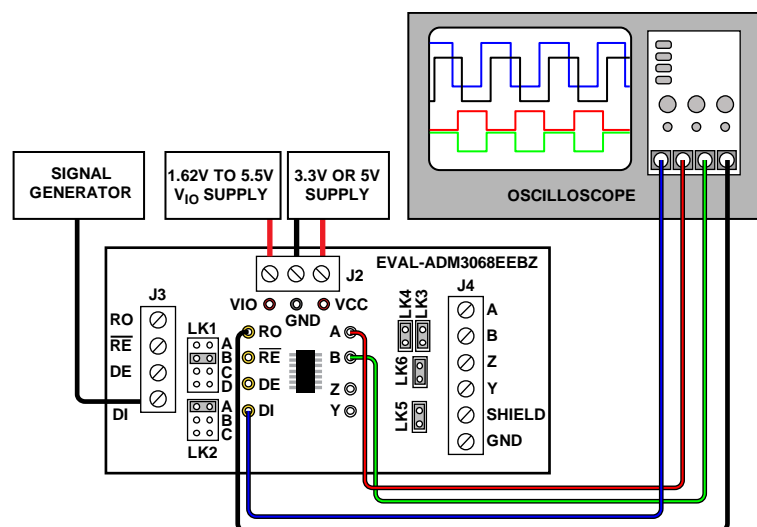

Figure 3. Full Duplex RS-485 Loopback Test
For the EVAL-ADM3068EEBZ, a loopback test can be set up by closing the LK4 and LK6 jumpers. Figure 3 shows how to set up a loopback test. A signal generator is connected to the DI pin, which allows verification of the bus signals and the receiver output. Note the jumper positions of LK1 (B) and LK2 (A) for the EVAL-ADM3068EEBZ evaluation board. Ensure that LK3 and LK5 are also closed. In this configuration, the default termination resistors can be used because both 120 Ω resistors on the board are connected in parallel by the loopback, ensuring that the test is conducted with a standard RS-485 load of 60 Ω (bus terminated at both ends by 120 Ω).